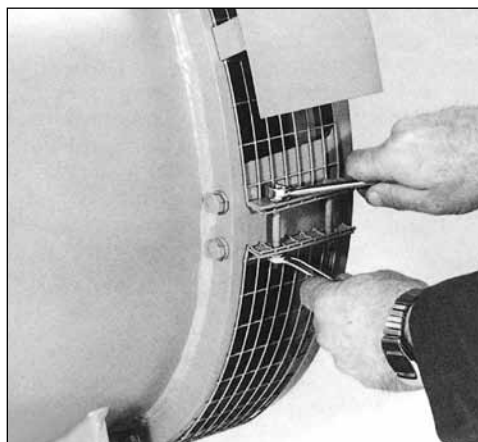

Figure 6-2
- a. Remove the bolts mounting the screen assembly to the SAE adapter and remove the screen and dripcover (Figure 6-2). Note: Do not remove the dripcover from the screen.